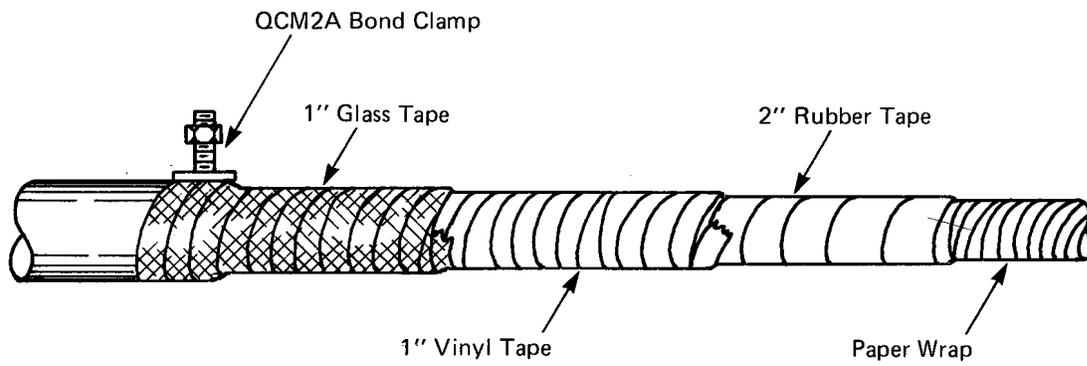

Fig. 24 - Wrap Cable
- (4) Using polyethylene tape, or equivalent, form a collar at the wire/sheath interface to prevent the pairs from shorting. The collar should extend from 1 inch under the outer cable sheath to 1 inch beyond it. Then, wrap the exposed paper for a distance of 2-1/2 feet (0.75 m) from the bond clamp with a half-lapped layer of 2 inch (50 mm) followed by two half-lapped layers of 1-inch vinyl tape. Complete the wrap with a half-lapped layer of 1-inch (25-mm) glass tape (Fig. 24).
- (5) Feed the cable through the mounting bracket on the back of the hinged panel.
- (6) Remove the exposed paper jacket, and clean the pairs of excess filling compound.